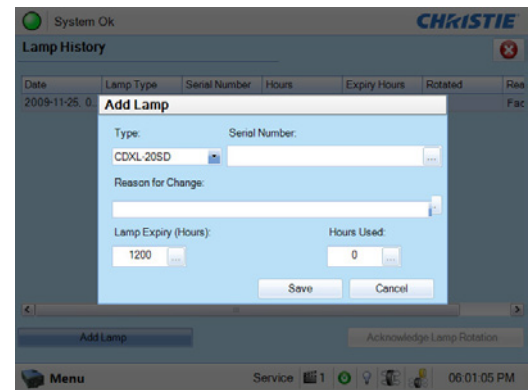

Figure 6-3 Add Lamp Window
11. **Software Adjustments.** In the **Advanced Setup: Lamp History** window, tap the **Add Lamp** button and record lamp type, serial number, reason for change and number of the hours logged on to the lamp. If the lamp has not been previously used, enter 0. Tap **Save** to save the data entered (**Figure 6-3**).